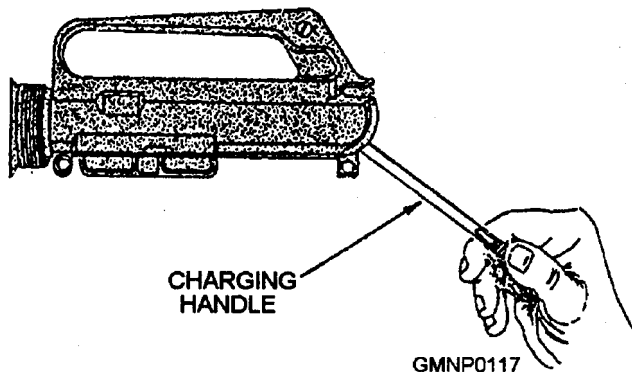

Figure 3-43.—Removing the charging handle.
4. Pick up the upper receiver group; keep the muzzle to the left. Grasp the charging handle, pressing in on the latch, and pull to the rear to withdraw the bolt carrier from the receiver. Grasp the bolt carrier and pull it from the receiver (fig. 3-42). When the bolt carrier is removed, the charging handle will fall free of its groove in the receiver (fig. 3-43). Place the receiver on the table.